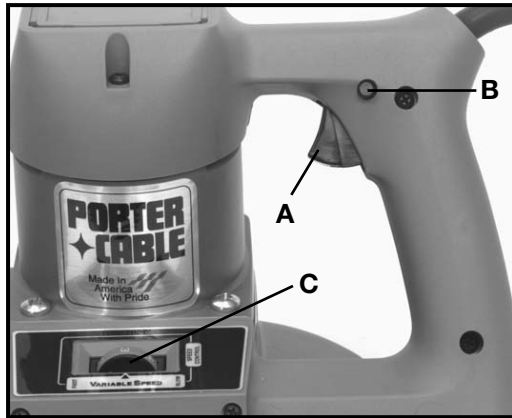

Fig. 1
2. Squeeze trigger switch (A) Fig. 1, to start motor. Release trigger to stop motor.
3. A lock button (B), Fig. 1, is provided to keep the saw running without holding the switch trigger "ON". To lock the switch trigger "ON", squeeze the trigger as far as it will go and push in the lock button and release trigger.
4. The 7724 is equipped with an adjustable variable speed control. The speed is adjusted by turning the control knob (C), Fig. 1.